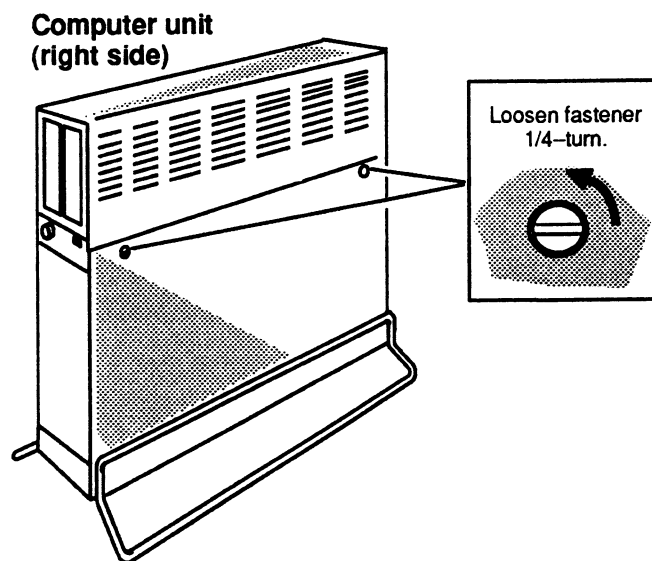

Figure 1-7 Loosening the Side Cover Fasteners
1. Using a coin or a screwdriver, loosen the two fasteners that attach the side cover to the computer unit by turning them one-quarter turn counterclockwise as shown in Figure 1-7.